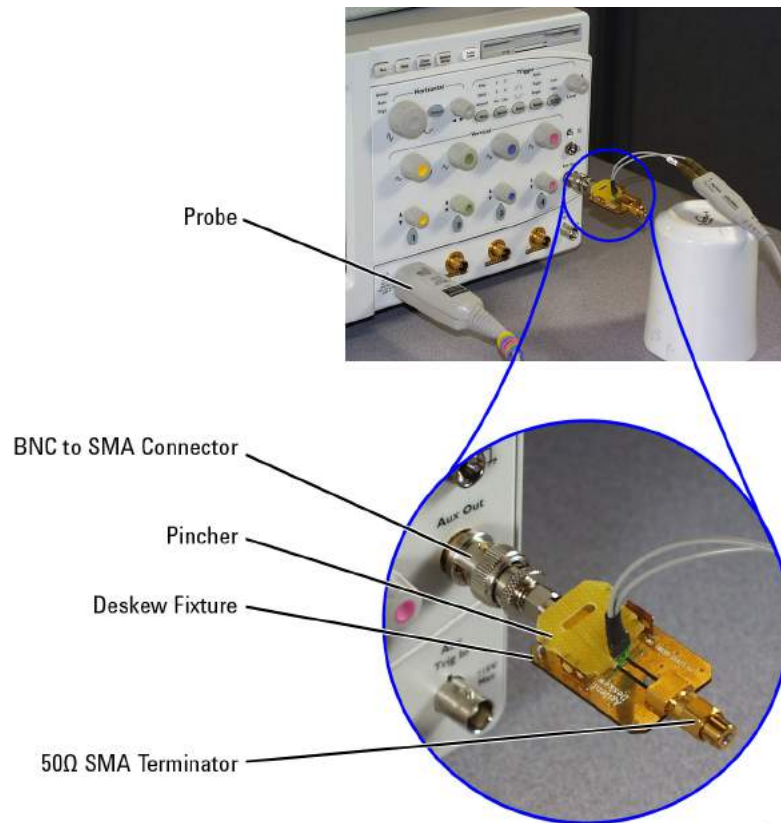

Figure 106 Connecting the Probe and Deskew Fixture
- 1 As shown in **Figure 106** on page 126, connect BNC (male) to SMA (male) adapter to the deskew fixture on the connector closest to the yellow pincher.
For the following procedure, refer to **Figure 106** on page 126.